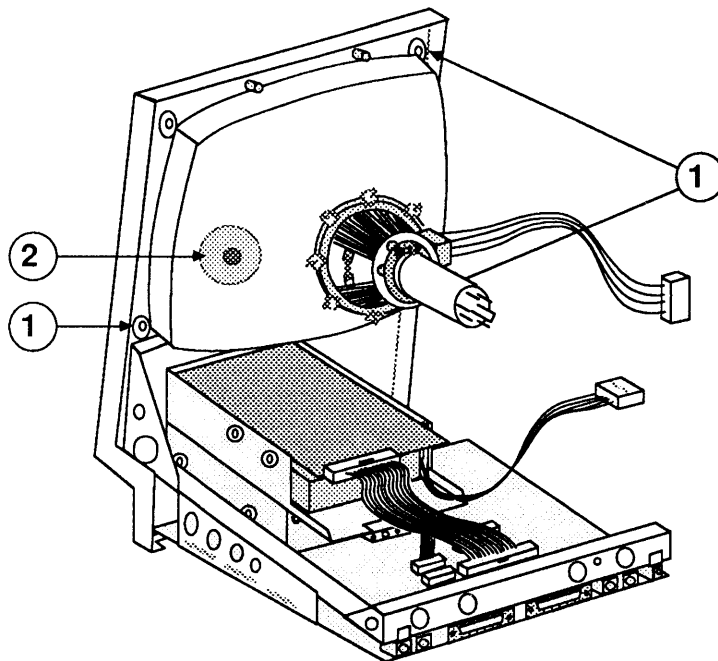

FIGURE 27
6. Using the Torx screwdriver, remove the three remaining mounting screws from the corners of the CRT (Figure 27, #1).
1. Place the CRT face down in the bezel, with the anode aperture (Figure 27, #2) on the left, as shown.
2. Replace the three CRT mounting screws shown in Figure 27, #1.